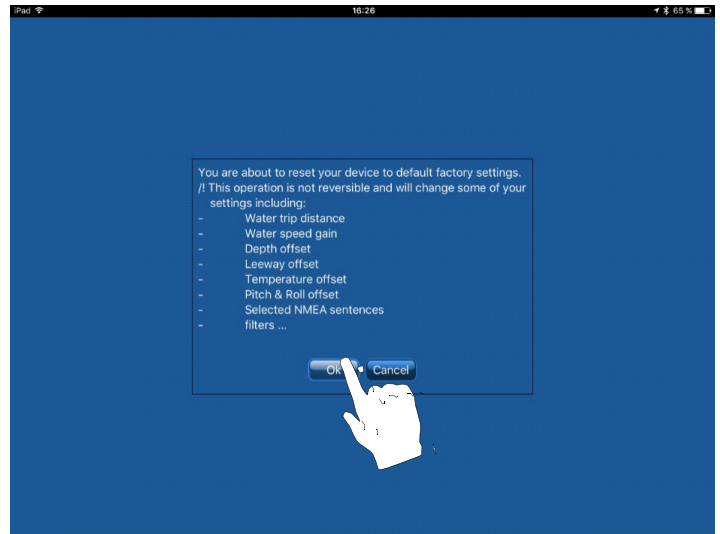

Figure 30. Restore Factory settings
2. Touch **Advanced** (Figure 30).